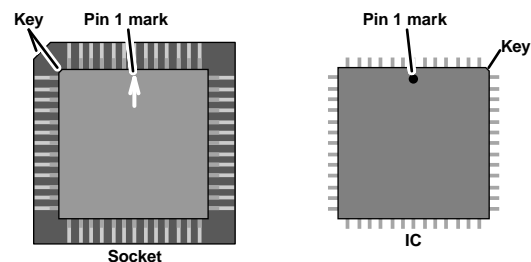

Figure 48 — Key and pin 1 mark
7. Note the key (angled corner) of the new firmware IC and the dot on the underside that indicates pin 1 (figure 48). Orient the IC to match the key and pin 1 (indicated by arrow) on the socket, and carefully press the IC in place.